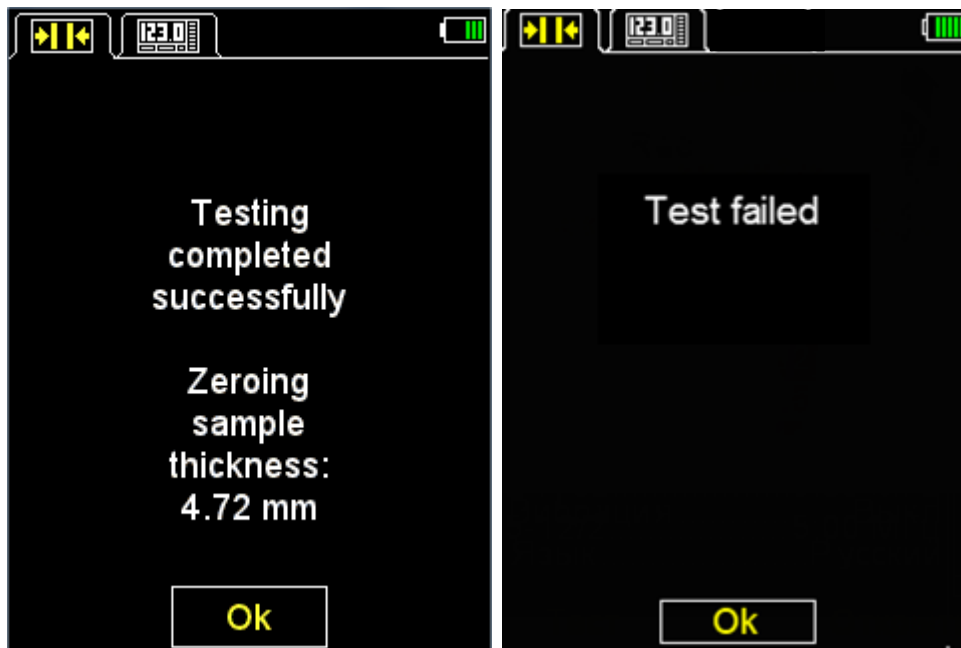

Figure 15
- The screen will display the results of the testing when the test is completed. If the test result is positive, then the thickness value of the control testing sample will be indicated. If the test result is negative, then the corresponding message will be displayed (Figure 15).